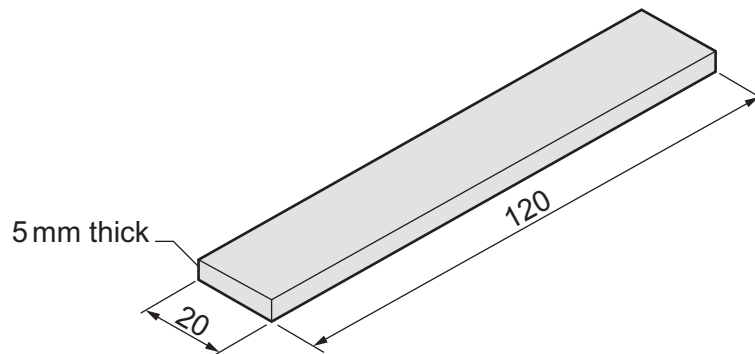

Fig. 6.1
- 6 Fig. 6.1 shows a length of brass that is to be heated to a dull red colour.